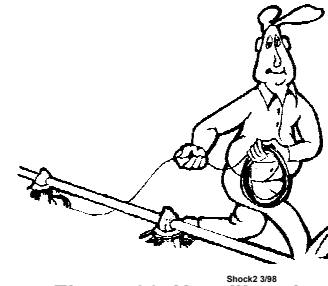

Figure 66. Unrolling the Cable
1. Unroll the bulk anti-roost cable. Note: If the cable is unrolled as shown in **Figure 66**, taking 5 loops of the coil with one hand, then changing hands to remove 5 loops as it is unrolled, it will lie flat during installation.